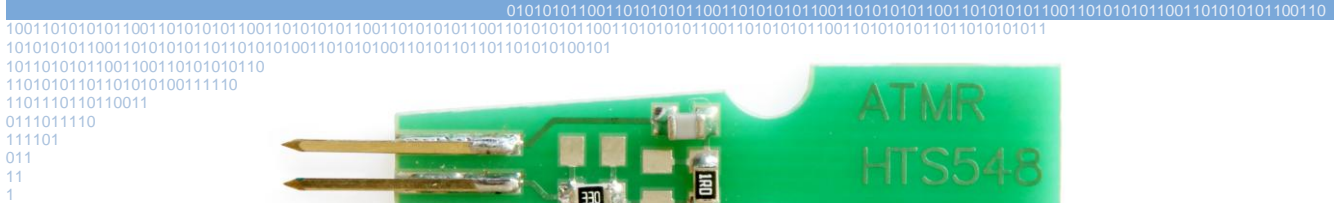

Fig. 5.3. Appearance of the «ATMR, HTS548, HTS726» prob.
- 3) Connect the probe (shown in the Fig. 5.3) to the pins corresponding to the drive's family (see section 9) and hold it there.